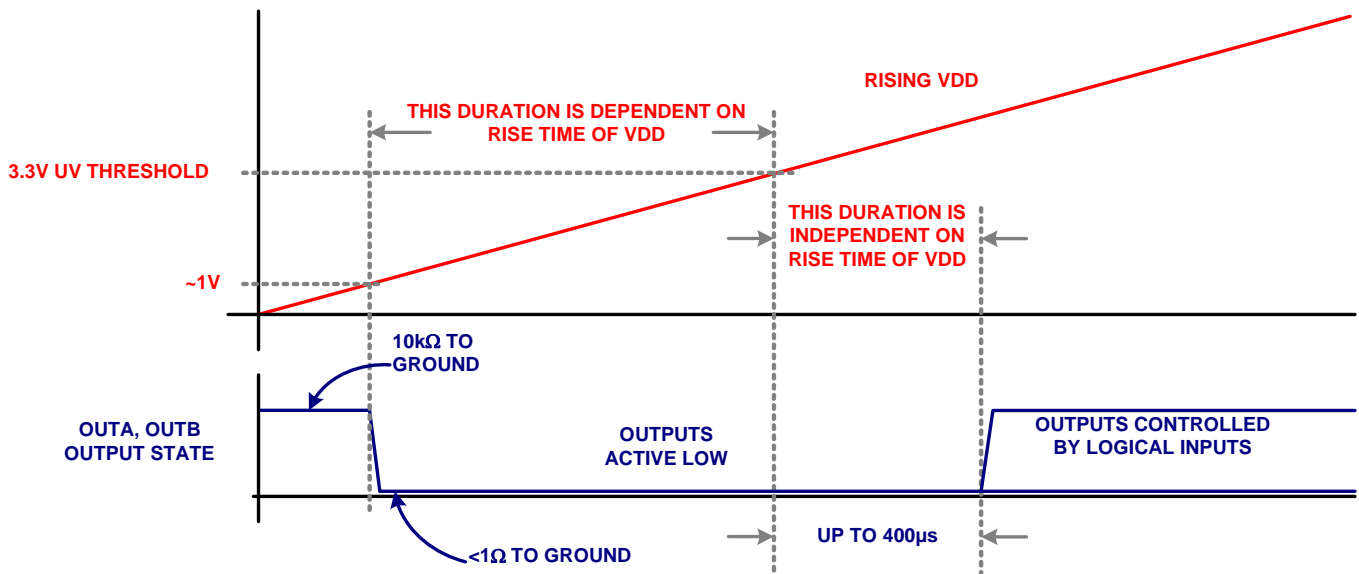

FIGURE 9. START-UP SEQUENCE
- A 400 $\mu s$  delay further inhibits the release of the output state when the UV positive going threshold is crossed. See Figure 9
The start-up sequence for is designed to prevent unexpected glitches when  $V_{DD}$  is being turned on or turned off. When  $V_{DD} < \sim 1V$ , an internal  $10k\Omega$  resistor connected between the output and ground, help to keep the gate voltage close to ground. When  $\sim 1V < V_{DD} < UV$ , both outputs are driven low while ignoring the logic inputs. This low state has the same current sinking capacity as during normal operation. This insures that the driven FETs are held off even if there is a switching voltage on the drains that can inject charge into the gates via the Miller capacitance. When  $V_{DD} > UVLO$ , and after a  $400\mu s$  delay, the outputs now respond to the logic inputs. See Figure 9 for complete details.